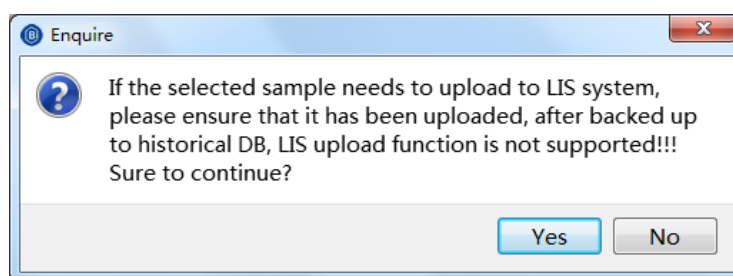

Figure 8.3.16 Confirm backup
- Click **Backup**, the system prompts a dialogue box to confirm the backup, as shown in Figure 8.3.16